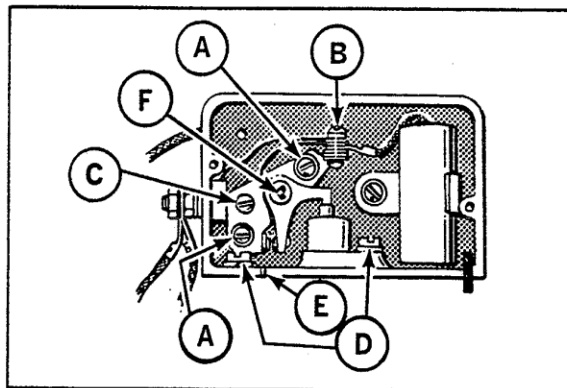

Figure 30. Breaker point box.
5. See figure 30. Remove the two mounting screws marked (A) and pull the points out of the box just far enough so screw (B) can be removed.
6. After removing screw (B) replace the points with a new set. Replace, but do not tighten the two mounting screws (A).
7. Rotate the engine clockwise (as viewed from the rear) by turning the engine cooling fan by hand until the points open. The flywheel should be about 1/4 turn after top center. Turn the screw (C) until the distance between the points measure 0.020 inch with a flat thickness gauge.
9. Set the ignition timing as outlined in the following section. **NOTE: EACH TIME NEW BREAKER POINTS INSTALLED, PLACE A DROP OF OIL ON POINTS PIVOT POINT (F).**